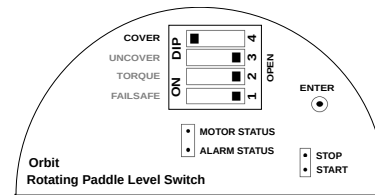

Figure 11: Cover Delay Switch Position
- Set the COVER switch to CLOSE (Opposite of OPEN for DIP switch) position as shown in Figure 11.